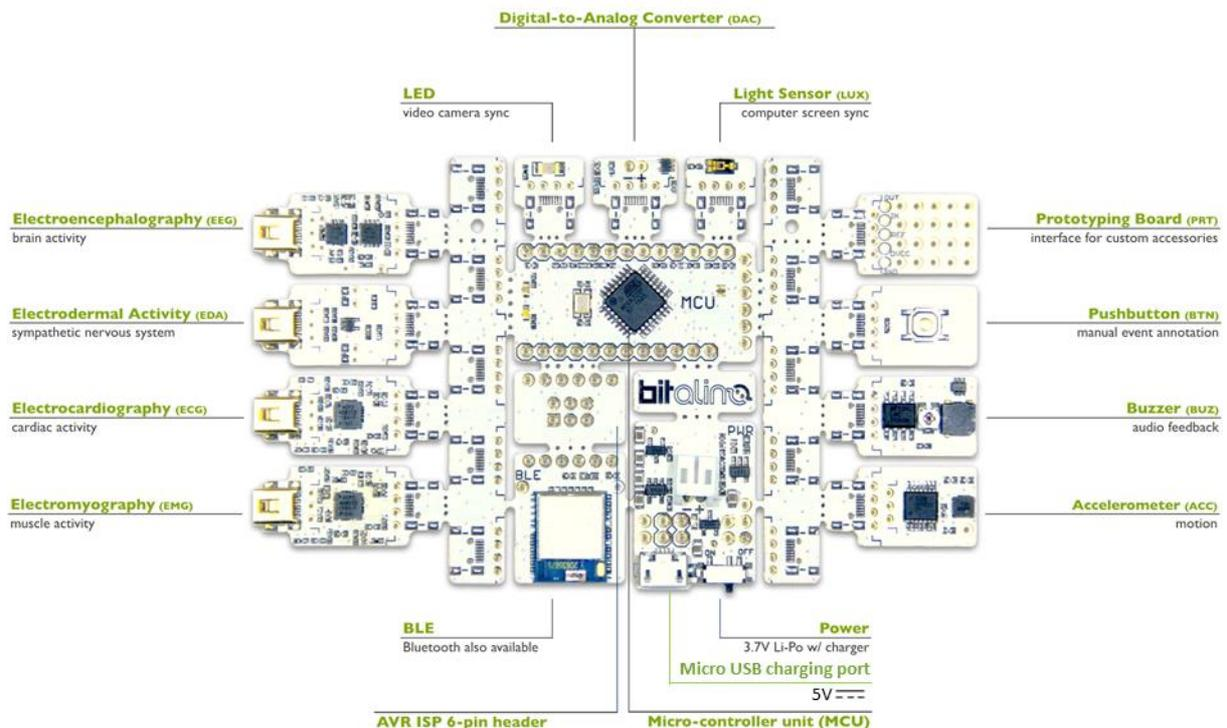

Figure 7: BITalino Board kit BLE/BT: Components of the Board with sensors and “Core”.
b) BITalino (r)evolution **Board kit BLE/BT dual mode** (see Figure 7)